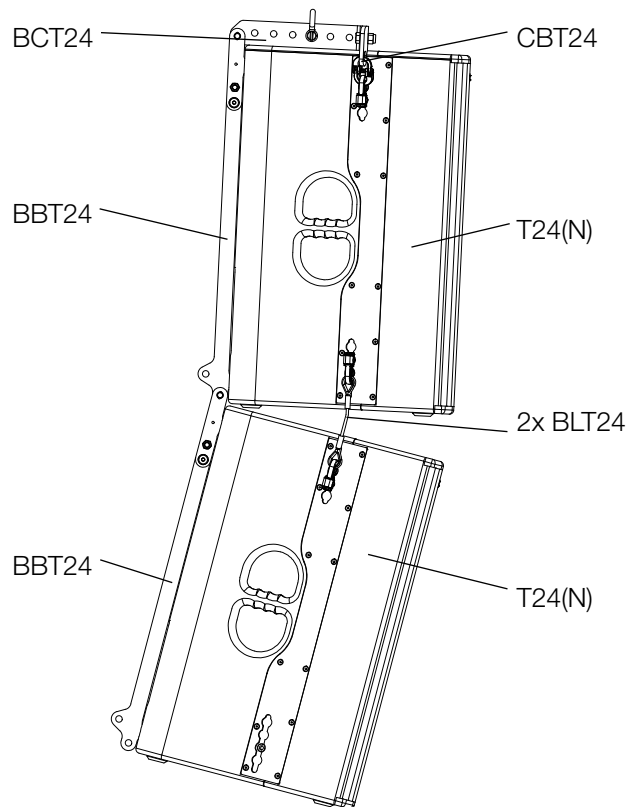

Figure 4.7 - Standard variant
The standard variant has established itself in which two T24(N) loudspeakers are used with one CBT24 cradle bar for flying, one BCT24 rigging adapter, two BBT24 brackets and two BLT24 Boxlink connector cables. (See figure 4.7)